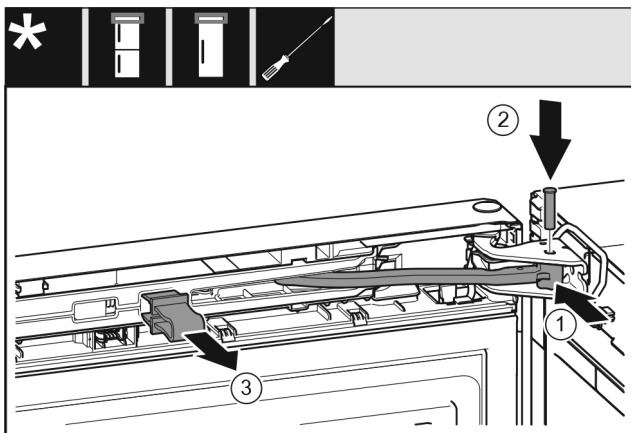

Fig. 43
- ▶ Turn the joint Fig. 43 (1) in the bearing block.
- ▶ Insert thebolt Fig. 43 (2) into the bearing bracket and joint. Ensure that the latching cam is in the groove properly.
- ▶ Remove the safeguard Fig. 43 (3).